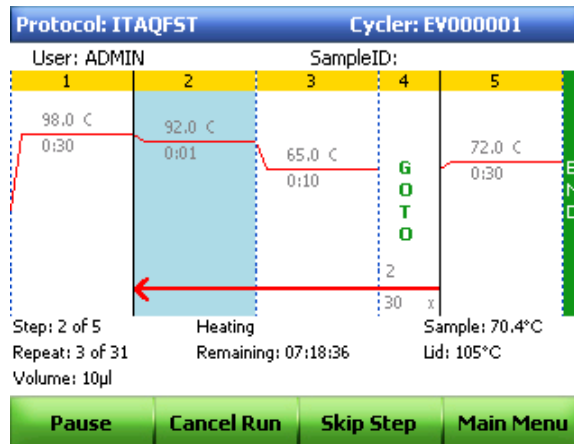
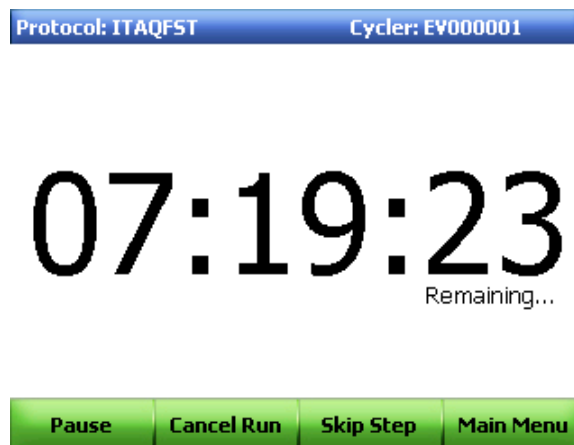

Figure 59. Switch back to the System Status screen by pressing STATUS.
Figure 60. Protocol time remaining screen.
3. For an actively running block, press **VIEW** to switch between graphical status (Figure 59) and time remaining (Figure 60) screens.